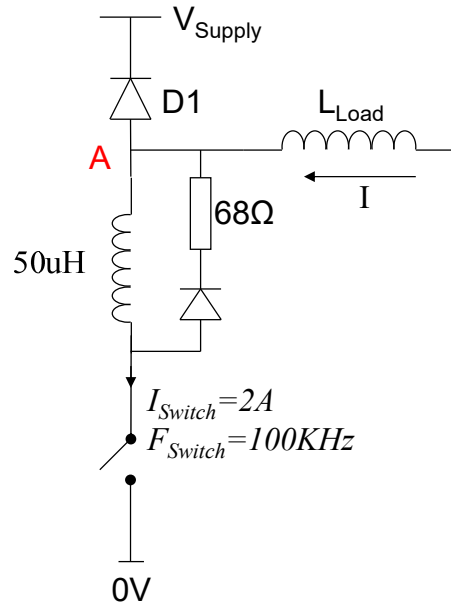

Figure Q4
Q4. In the circuit shown in Figure Q4, the switch operates at 100 kHz, the supply voltage is 200 V, and the forward voltage drop of any diode is 1 V. With this in mind, answer the following questions
- (ii) Referring to figure Q4, If the voltage at point A is 200 V, what is the rate of change (?) of current limited to when the switch is closed? [3]
- (iv) Assuming the switch in Figure Q4 has an output capacitance of 300 pF and the stray inductance due to circuit board layout is 800 nH. What is the undamped ringing frequency? [4]